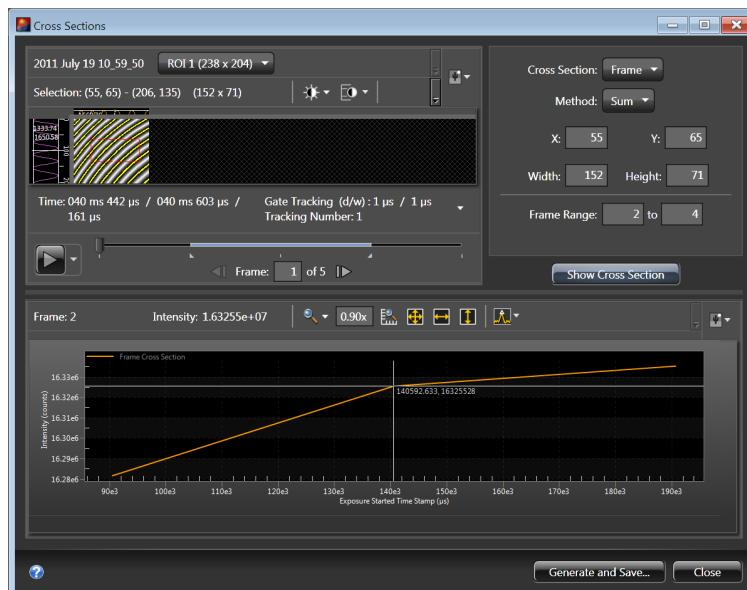

Figure 272. Frame Cross Section
9. You can change the horizontal axis calibration of a frame cross section. If the data were acquired while one or more Time Stamping functions were selected in the **Common Acquisition Settings** expander, you can change the horizontal calibration of the points used to create the cross section. Left mouse-click on the horizontal axis label to pop up the Horizontal Axis Calibration pane: this pane only lists the functions that were active when the data were acquired. You can then select a different calibration, change the units, or disable Horizontal Axis Calibration. Figure 272. shows a frame cross section calibrated in Frame Tracking Numbers in the horizontal axis. The data cursor shows that the sum of intensities for Frame 3 is 16325528 counts.